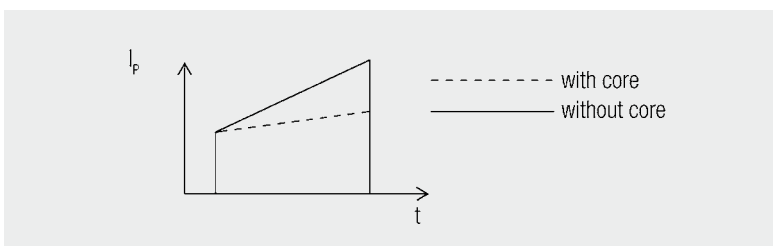

Fig. 1.34: Magnetizing current of a transformer with and without a highly permeable core
- Insertion of a highly permeable core to increase the primary inductance. This causes the magnetizing current to rise less steeply and is therefore smaller (Figure 1.34).